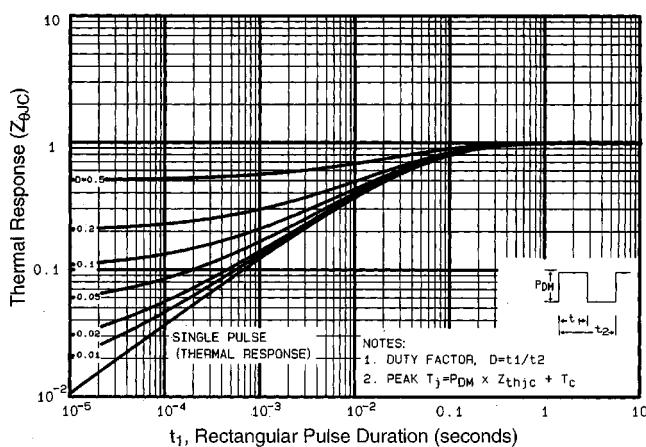

Fig 11. Maximum Effective Transient Thermal Impedance, Junction-to-Case
① Repetitive rating; pulse width limited by max. junction temperature (See Figure 11)
③ $I_{\text{SD}} \leq -19\text{A}$, $dI/dt \leq 200\text{A}/\mu\text{s}$, $V_{\text{DD}} \leq V_{(\text{BR})\text{DSS}}$, $T_J \leq 175^\circ\text{C}$